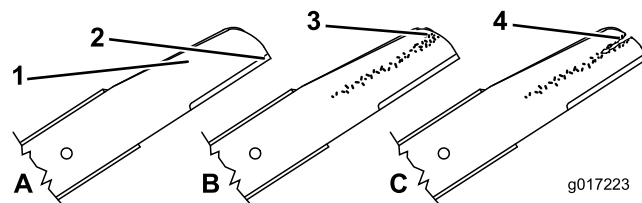

Figure 41
1. Inspect the cutting edges (Figure 41). If the edges are not sharp or have nicks, remove the blades and have them sharpened or replace them.
2. Inspect the blades themselves, especially the curved area (Figure 41). If you notice any damage, wear, or a slot forming in this area (Figure 41), immediately replace it with a new blade.